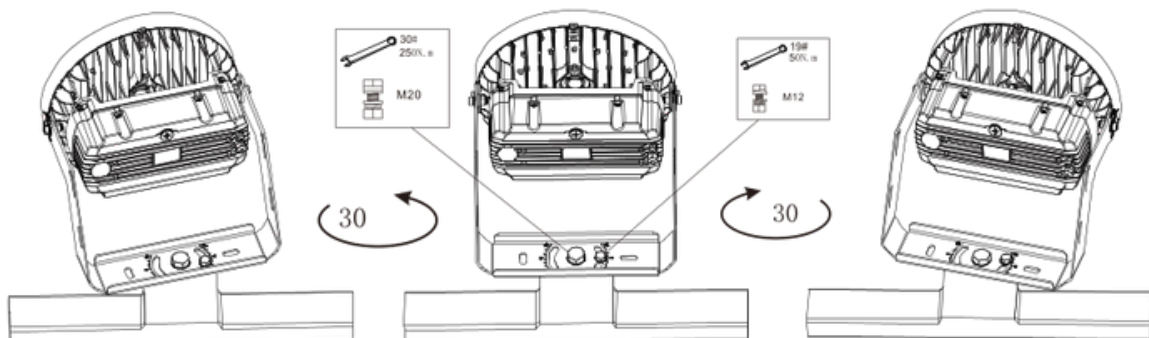

Figure 6
1. Set the up/down orientation by loosening the (2) bolts in the knuckle of the Universal Mount and turning the knuckle then retorque the bolts. (Figure 6)